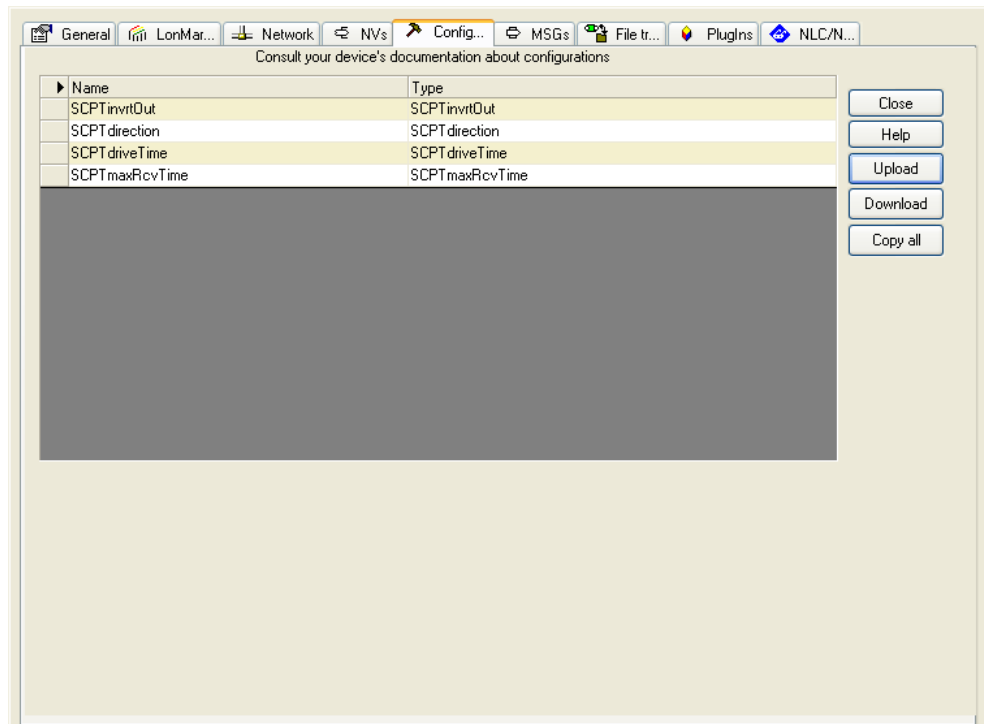

Figure 148: Configuration Tab for Configuration Properties in NL220.
2. Press the **Upload** button on the Configuration tab of the device properties (see Figure 148).